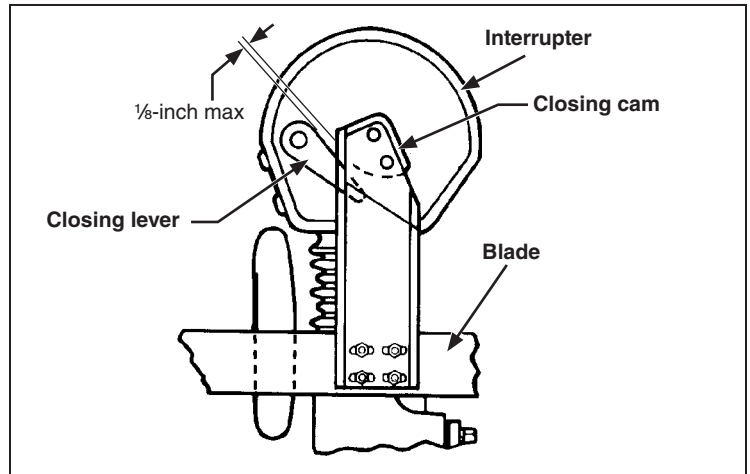

Figure 43. The blade assembly in the fully closed position.
- (c) When the blade is in the fully closed position, each blade-closing cam must overlap its respective interrupter closing lever to prevent inadvertent opening of the interrupter. The clearance between the blade closing cam and its respective interrupter closing lever must be within the limit shown. See Figure 43.
- (d) When the blade is in the fully closed position, each blade-closing cam must overlap its respective interrupter closing lever to prevent inadvertent opening of the interrupter. The clearance between the blade closing cam and its respective interrupter closing lever must be within the limit shown. See Figure 43.